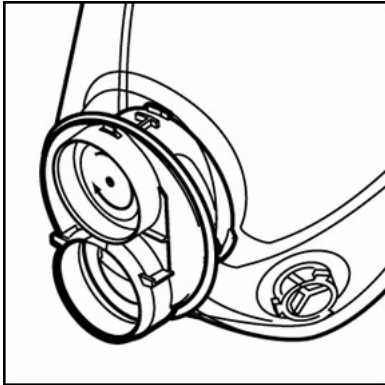

Fig. 19
4. Place new 6889 over the exhalation port and push or press valve stem into center hole. Be certain the valve is fully seated and spins freely in mount. (Fig. 19)